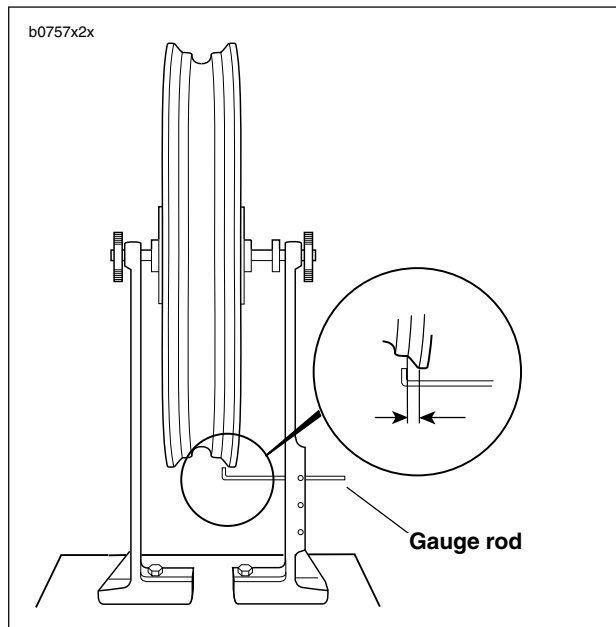

Figure 2-27. Checking Cast Rim Lateral Runout Using Wheel Truing and Balancing Stand (HD-99500-80)
1. See Figure 2-27. Install truing arbor in wheel hub and place wheel in WHEEL TRUING AND BALANCING STAND (Part No. HD-99500-80).